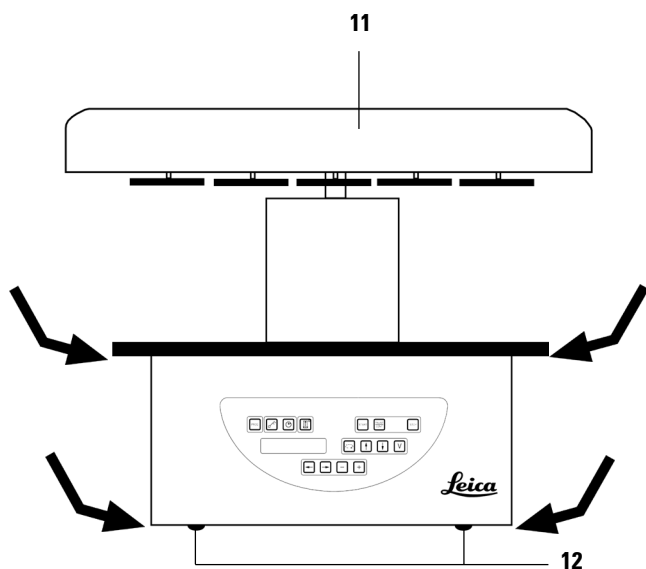

Fig. 20.2
- To lift up the instrument take it by the reagent container platform or by the lower end of the housing (Fig. 20.2) and lift it from the base plate (8).